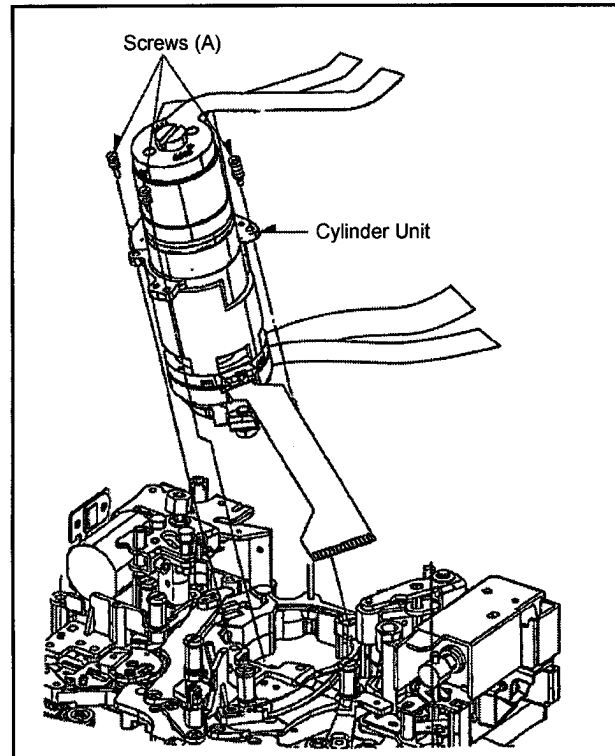

Fig. 4-1-1
5. Unscrew the 3 screws (A) (with spring) which fix the Cylinder Unit as shown in Figure 4-1-1 and lift up the Cylinder Unit without bringing it into contact with any other Mechanism's component.